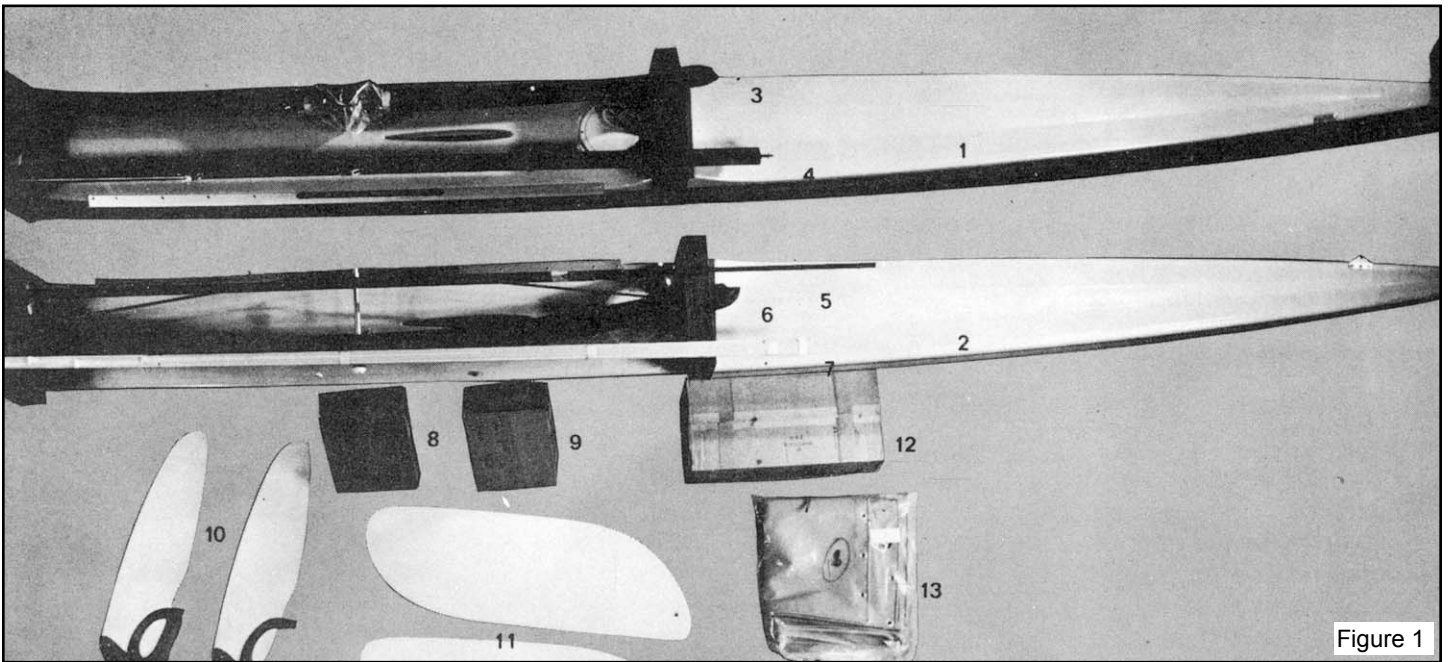

Figure 1
1. Place the boxes on level ground with the seams facing up. Cut the bands and open the lid. Remove the sail, trampoline, rig kits, (two boxes), dagger boards, rudders, and metal work modular packages. See Figure 1.